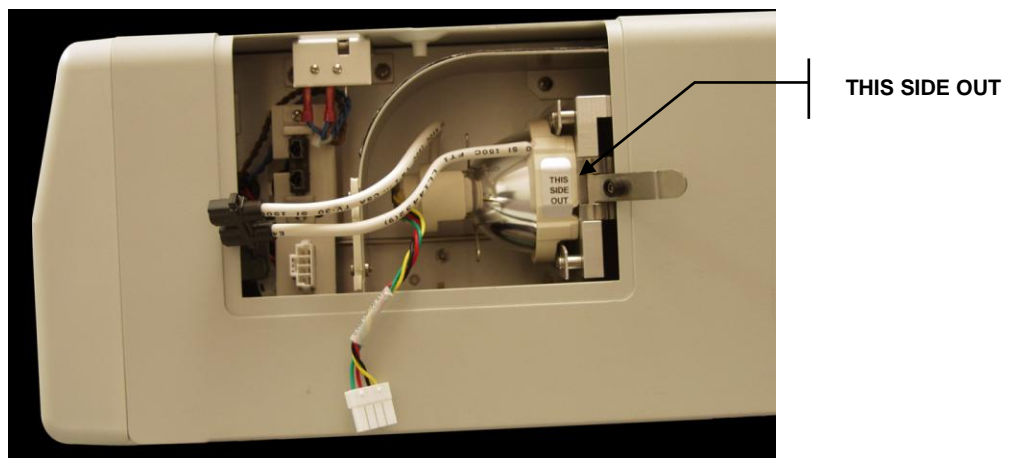

Figure 5 Lamp Orientation
5.1.5 Position the lamp so that the two leading edges of the lamp ceramic mount slide into the groove of the lamp bracket. The middle of the lamp should be in position to fit into the spring clamp. Reference Figure 5.
Tip: Make sure that the “This side out” label is facing outwards before trying to insert the lamp. Reference Figure 5.
- 5.1.6 Slide the lamp all the way in so that both leading edges of the lamp ceramic mount are in the groove of the lamp bracket. The middle of the lamp will snap into the spring clamp. Close the lamp bracket arm. Reference Figure 5.